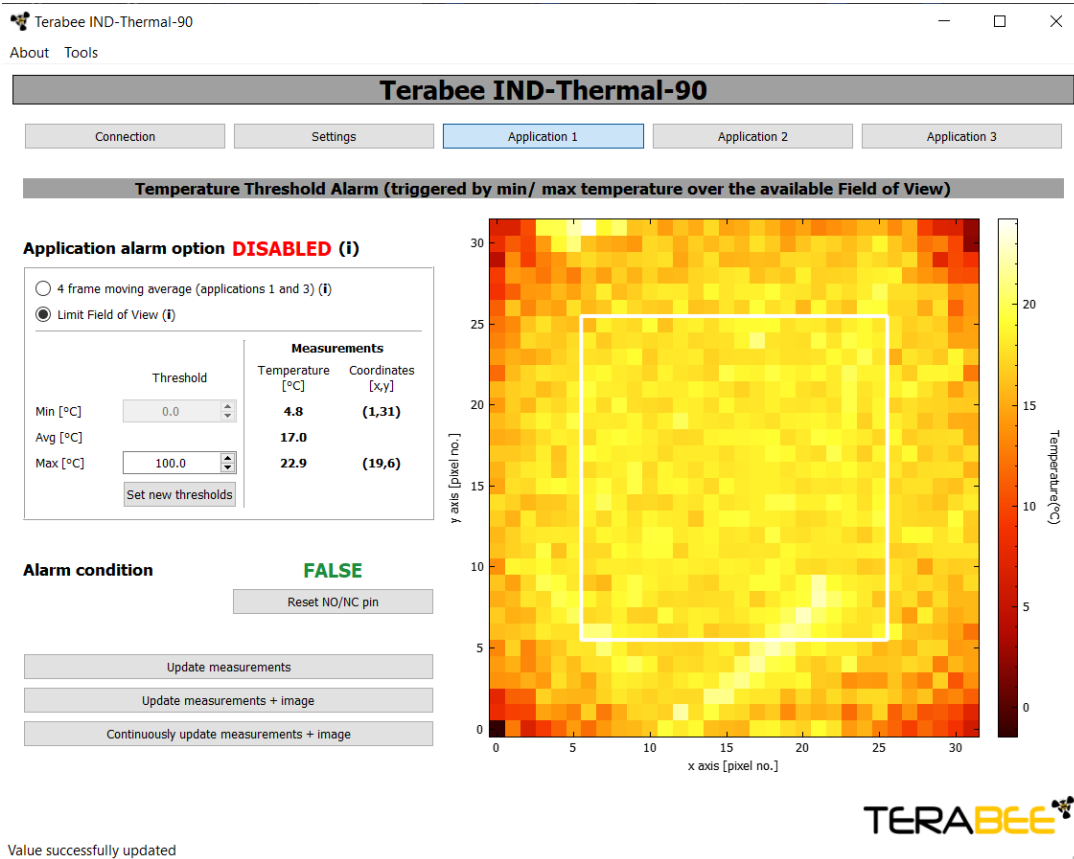

Figure 7. Application 1 tab with Limit Field of View = TRUE
- **Limit Field of View** - checking this button will limit the scanning of Application 1 to the inner 20x20 pixels, thus reducing the impact of the wide angle lens which results in the edges being more noisy. An overlay will be drawn over the image highlighting the area scanned, as shown in Figure 7. Changing this setting